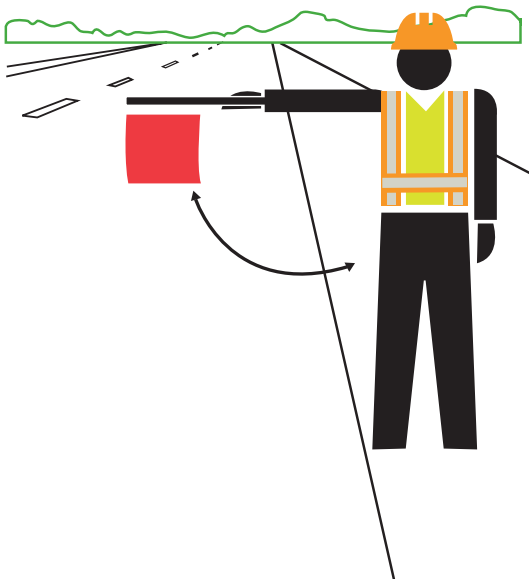

Figure 15
- Slowly wave the flag in a sweeping motion from the 6 o'clock position to the 9 o'clock position and back again. Do not raise your arm above the horizontal position. Keep the free arm down. *(Figure 15)*
- Move to a safe position on the shoulder, keeping the flag in a 9 o'clock position in view of road users. **(Figure 15)**